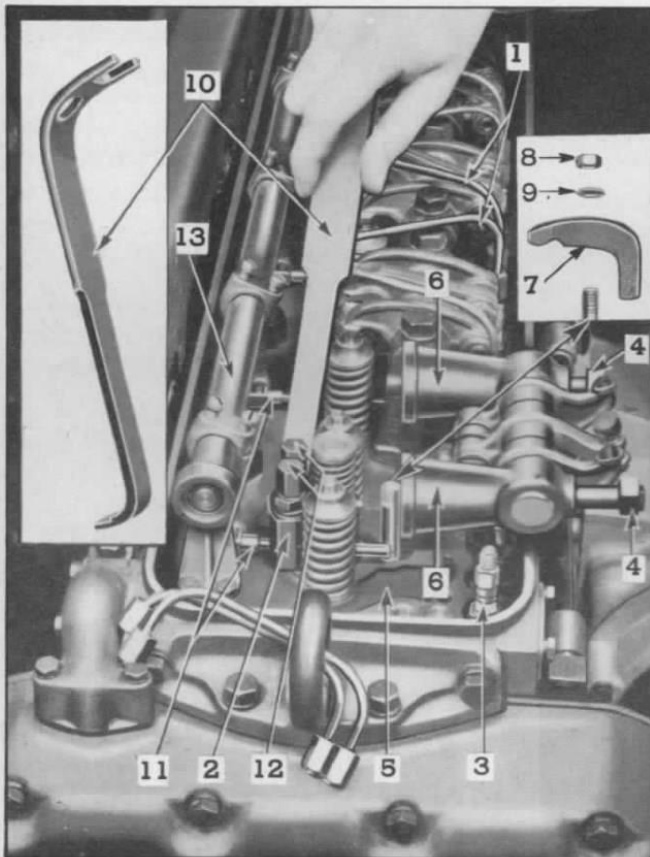

Fig. 29—Removing Injector from Cylinder Head with Tool J-1227-1
3. Refer to Fig. 29 and remove fuel lines (1) from both the injector (2) and the fuel connectors (3).
5. Loosen the two rocker arm bracket bolts (4) holding the brackets to the cylinder head (5) and swing the rocker arm assembly over away from valves and injector.
6. Remove injector hold-down stud nut (8), special washer (9) and injector clamp (7).
7. Using Tool J-1227-1, as illustrated in Fig. 29, pry injector from its seat.
Supplied with an injector that has been tested and is known to be in first-class condition, refer to Fig. 29 and proceed to install it as outlined below.